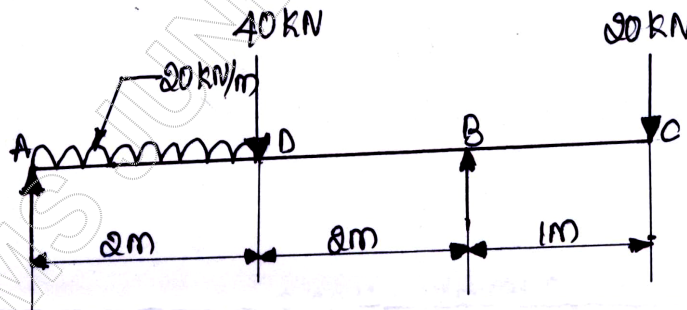

Fig Q4(b)
- b. Draw SFD and BMD diagrams for the overhanging beam shown in Fig Q4(b).